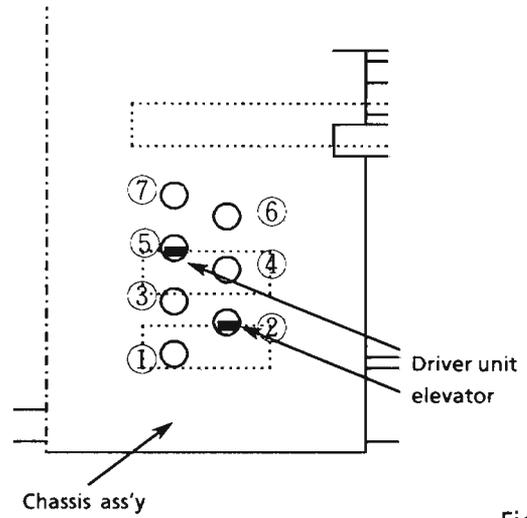
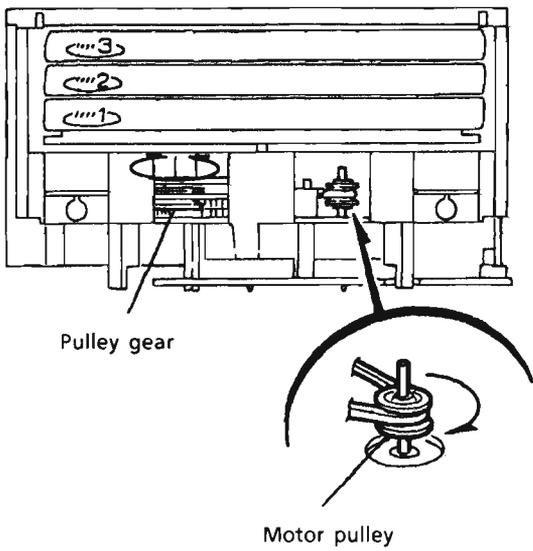

Fig. 33
Fig. 34
[NOTE] Set the elevator in correct position (Fig. 33) by rotating the pulley gear with finger if it is not positioned correctly (Fig. 34.).
12. Rotate the motor pulley clockwise with finger until the lifter unit's stopper is lowered from ⑦ hole located on the CD tray ass'y. (See Fig. 34.)